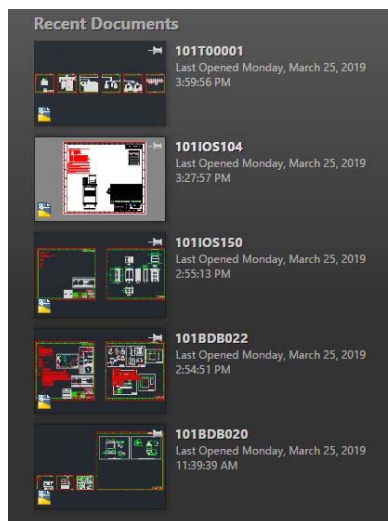

Figure 4-4, Preview Thumbnails
2. By clicking the “Start” tab, it will bring up a homepage with preview thumbnails for recently opened documents. See Figure 4-4, Preview Thumbnails below for an example